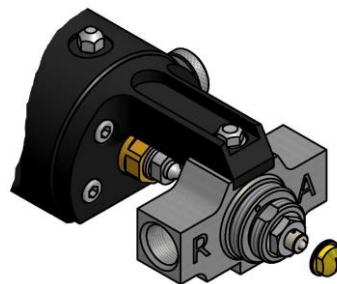

Figure. 10
10. Remove the PCD and clean it with gun-cleaning solvent (see **Figure. 10**).
8. Remove the PCD and clean it with gun-cleaning solvent (see **Figure. 10** page 14).